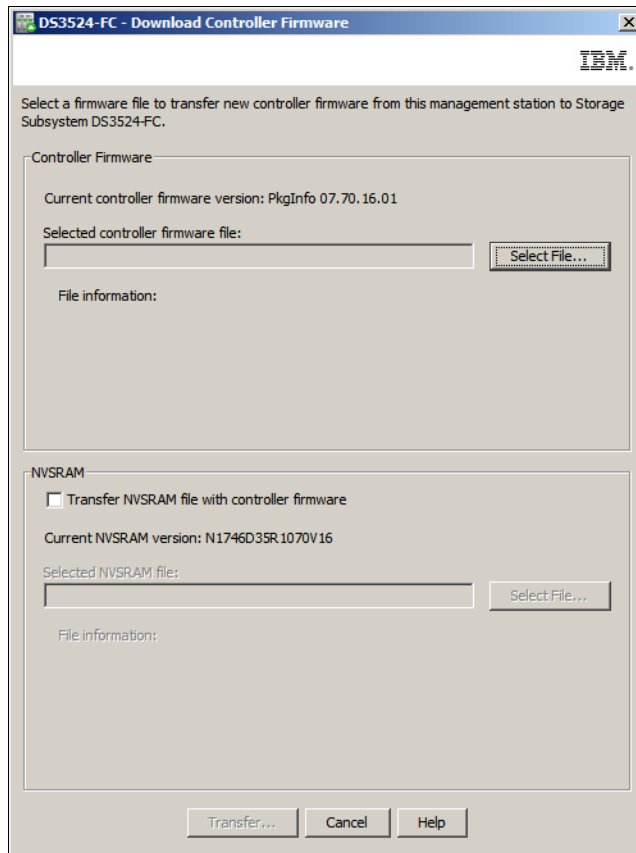

Figure 14-68 Download Controller Firmware
3. If there are no event log verification errors then the **Download Controller Firmware** window shown in Figure 14-68 on page 374 will appear.